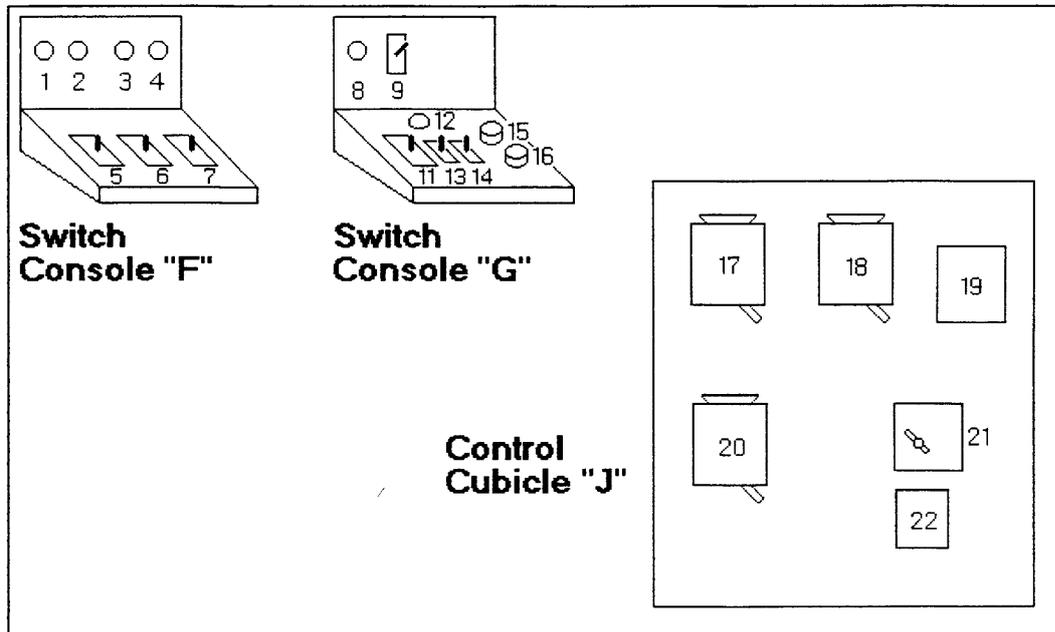

Fig. 4
- F: Switch console - see Fig. 4, page 10.
- G: Switch console - see Fig. 4, page 10.
### AUXILIARY CONTROLS LAYOUT (Fig. 4)